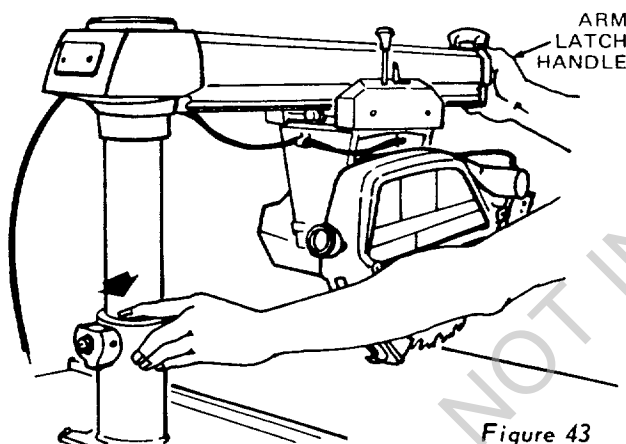

Figure 43
a. Checking for Looseness of Column Tube in Column Support (Figure 43).
- (1) Tighten the arm-latch handle.
- (2) Grasp the arm-latch handle with one hand and hold a finger of the other hand at the parting line between the column tube and column support.
- (3) Apply gentle side force to the radial arm in opposing directions. Any looseness between column and column support (indicated by arrow in figure 43) can be felt with finger.
- (4) If looseness can be felt, perform the following operations: